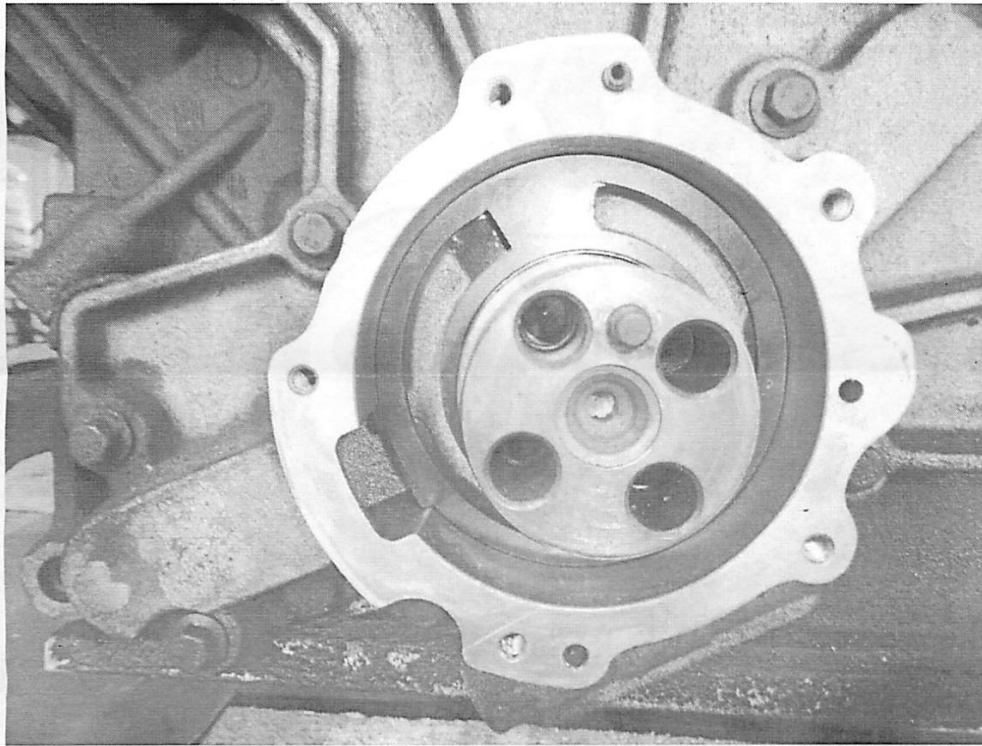

Figure: 5
- 5) Holding the Wear Plate on the left side apply pressure (Wiggle if necessary the right side) and the wear plate will lay flat as in **Fig.5**